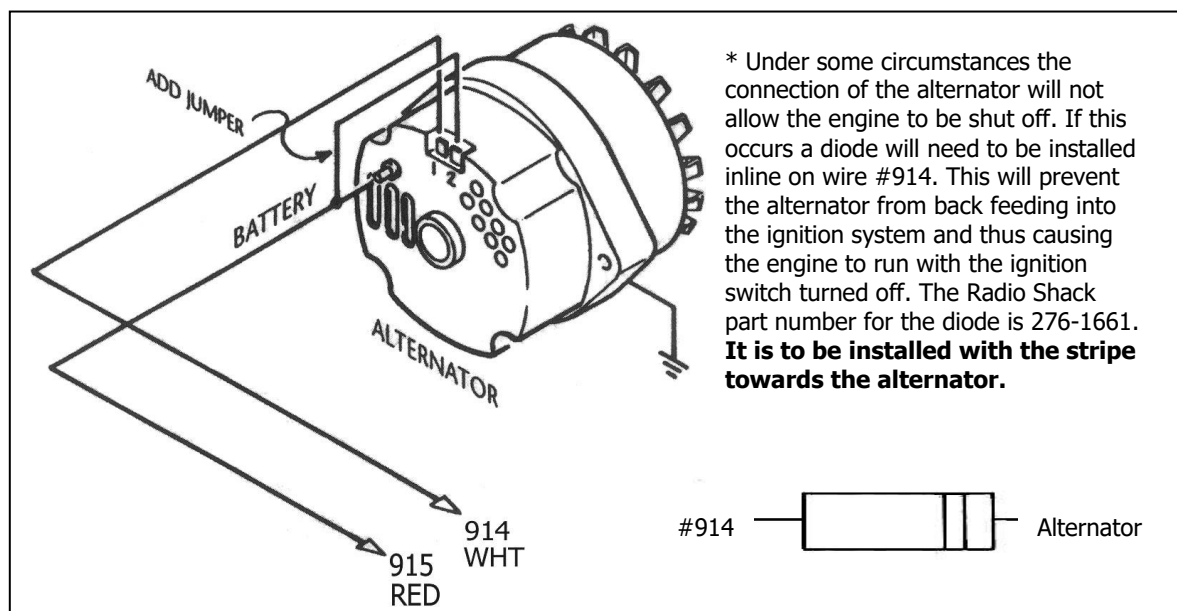

Figure 7-2A Late GM Alternator - Internal Regulator
7.2 GM Alternator (after 1972) - Internal Regulator. See Figure 7-2A.
**** If you do not have a One Wire alternator refer to Figure 7-2A.**